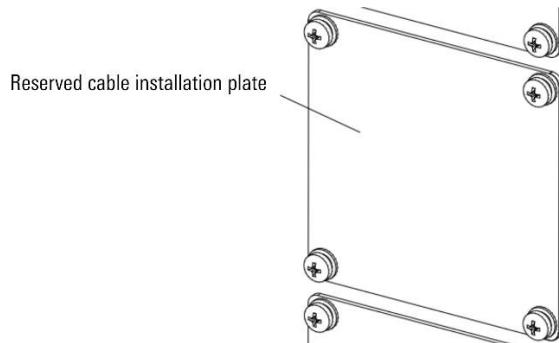
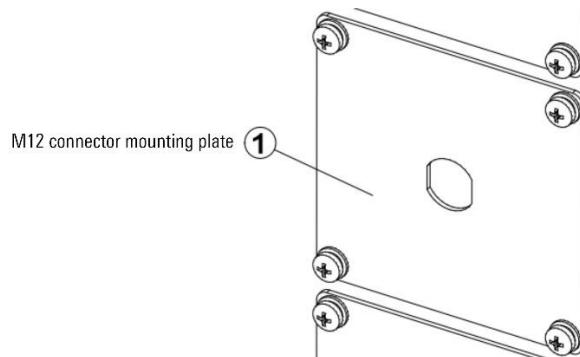

Figure 17-6 Reserved cable installation plate
Figure 17-7 M12 connector mounting plate
Step1. Remove the original reserved cable mounting plate (refer to Figure 17-6) with a cross screwdriver and install the M12 connector mounting plate (refer to Figure 17-7) on the cabinet.